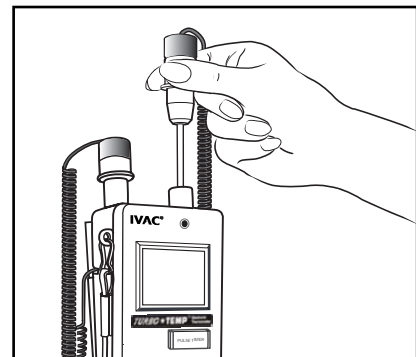

Figure 2 - Instrument Start-Up by Removing the Probe
- Figure 2 Instrument Start-Up . . . . . 7
With your thumb and forefinger, grasp the base of a probe and withdraw it from the probe storage well (see Figure 2). This action automatically turns on the instrument. Verify that all display segments, except the pulse timer clock, momentarily light and that the instrument beeps once. When this sequence is complete, the instrument will display the temperature or "Lo" if the ambient temperature is less than 26.7°C (80.0°F) indicating the instrument is ready for use.